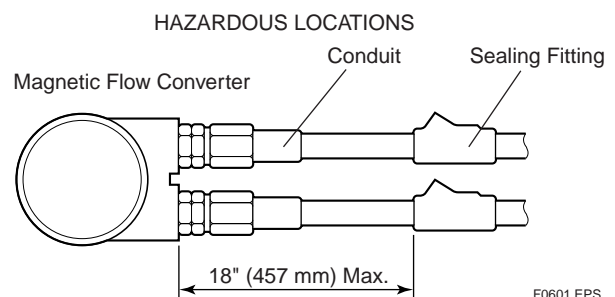

Figure 12.2.1 Conduit Wiring
- In hazardous locations, wiring to be in conduit as shown in Figure 12.2.1.
(3) Operation